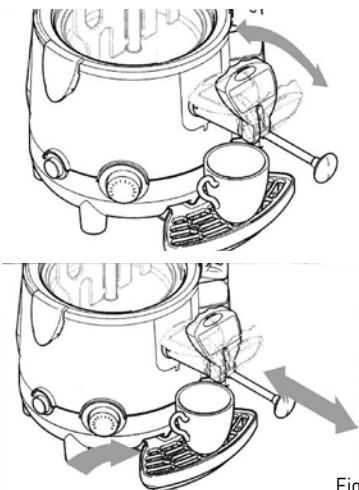

Fig. 1
- If the hot chocolate is passing too low, it is advisable to keep the rod pulled out at the maximum position; any clogging in the dispensino line may be removed by sliding the rod back and forth while keeping the machine, as shown in the Fig.1
**Caution! Danger of burns!** Do not touch the bowl lid (1) and the bowl (2) while the machine is operating since they are very hot. Always use the top knob of the bowl lid (2) for picking up.